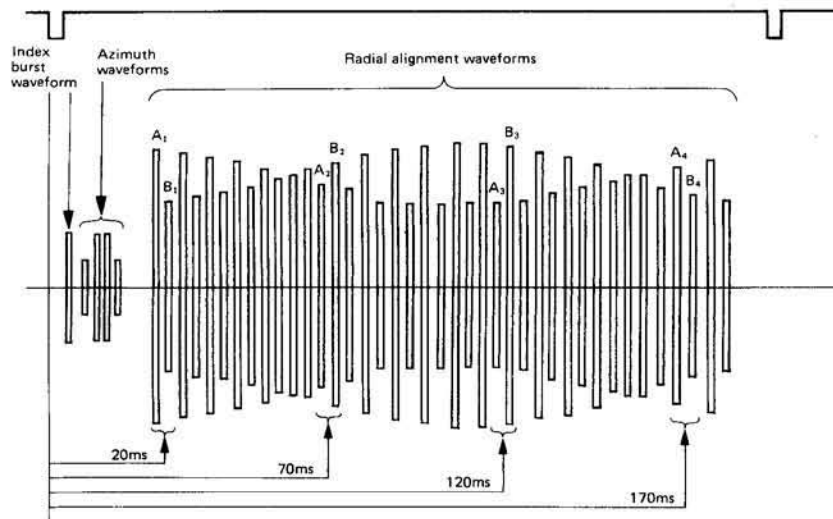

Fig. 9.3 Alignment Waveform (DAD)
(4) Watch the output waveforms for sides 0 and 1. They should appear as shown in Fig. 9.3.
(5) Measure the timing levels A1 to A4 and B1 to B4 in Fig. 9.3, and calculate the lobe ratio from the following formulas.